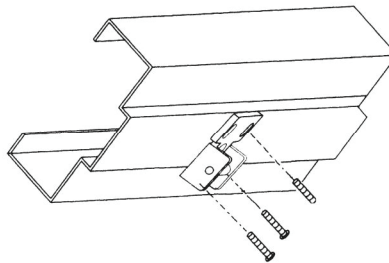

Figure 14
- h. Fasten the top strike using the supplied screws. (See Figure 14.)